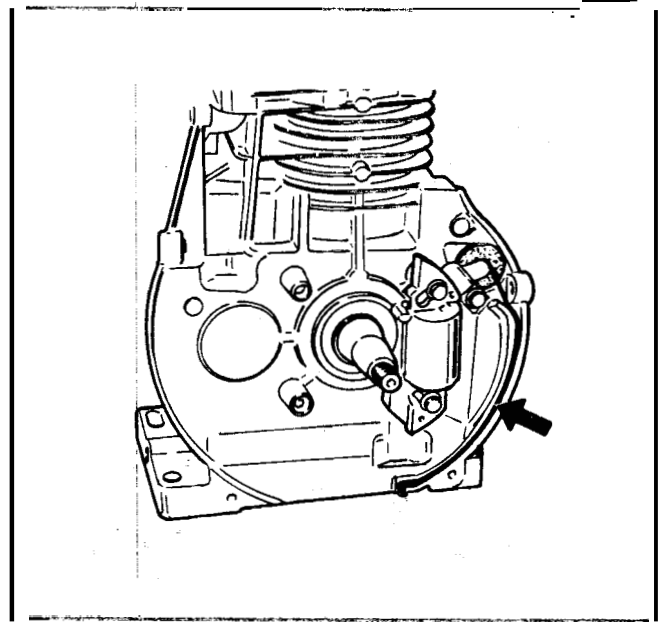

Figure 115
27. **Route** the oil sensor wire in the channel provided in the crankcase. The wire groove is accessible with the flywheel installed. See Figure 115.